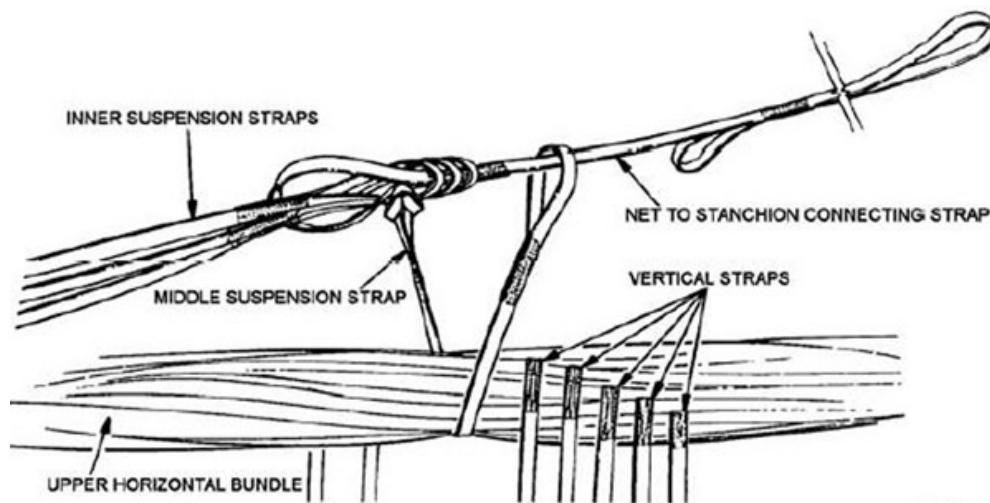

Figure 1-12. Suspension straps.
- Six inner suspension straps, one for each group (three on each side of the net), shown in figure 1-12.
- Two middle suspension straps (one on each side of the net assembly) designed to hold the outer portions of the net at the proper installation height, shown in figure 1-12.